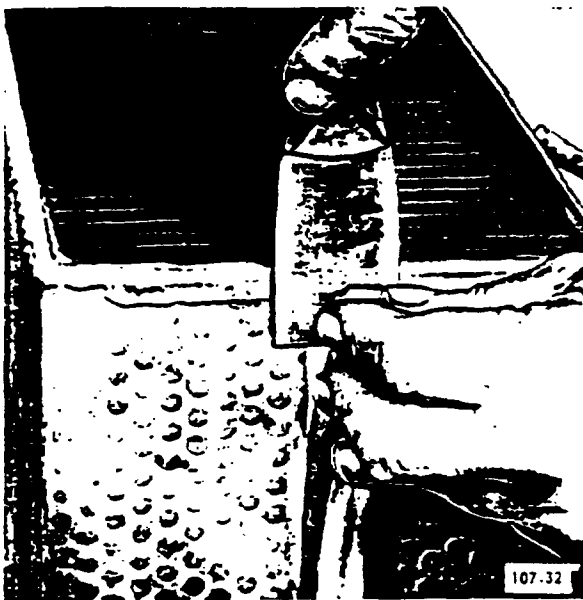

Figure 2-400. Removing End Gasket
7. Remove the old end gasket. See Figure 2-400.